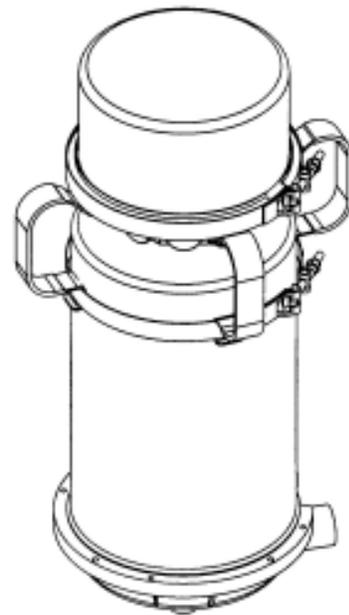

Figure 4b
- C.** Lay the unit upside down being careful not to damage the top of the pump chamber. Placing blocks or wood under the float will help prevent this damage. NOTE: Pump chamber and float not shown in Figure 4b.
- D.** Place the junction box onto the unit as shown Figure 4b and tighten the band clamp so there is approximately a 1/2 inch gap between the bottom of the motor housing and the top of the junction box.